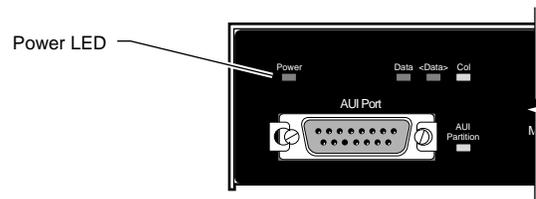

Figure 2-4. Power LED
5. Check the Power LED on the front panel (see Figure 2-4). If it does not light, contact the customer support department of the organization from which you purchased your Model 2800A.